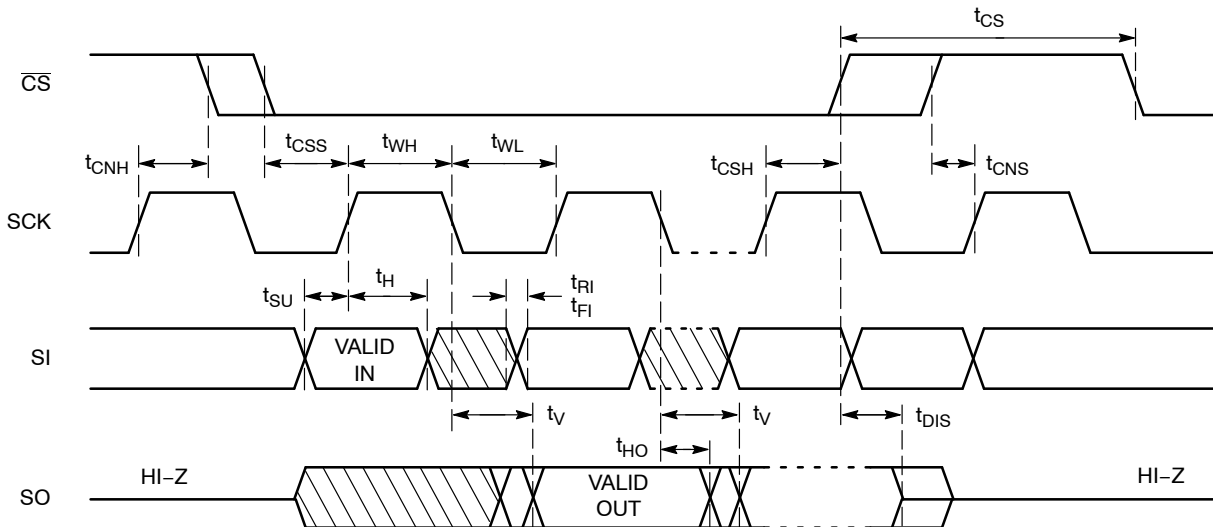

Figure 2. Synchronous Data Timing
7. **All Chip Select (CS) timing parameters are defined relative to the positive clock edge (Figure 2). t_{CSH} timing specification is valid for die revision C and higher. The die revision C is identified by letter “C” or a dedicated marking code on top of the package. For previous product revision (Rev. B) the t_{CSH} is defined relative to the negative clock edge.**
After a high to low transition on the $\overline{\text{CS}}$ input pin, the CAT25320 will accept any one of the six instruction op-codes listed in Table 9 and will ignore all other possible 8-bit combinations. The communication protocol follows the timing from Figure 2.